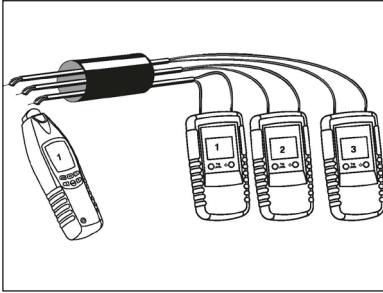

Figure 18:
When identifying multiple installed conductors, each conductor must be isolated and not carrying any voltage. One end of the lead will require shorting together (as shown in Figure 18) If multiple transmitters are available, each transmitter should be set to a unique signal (1 - 7). Connect the transmitters as shown in figure 18.
**NOTE :** The stripped lead terminals must be twisted together to ensure a good electrical connection, as shown in Figure 18.